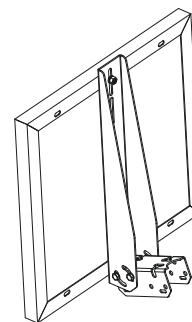

figure 1
**Step2.** For pole mounting, use U bolts or steel clamps to fix the PV module and mount assembly to the pole. **See figure 1.** The U-Bolts and/or steel clamps are not included in the kit.